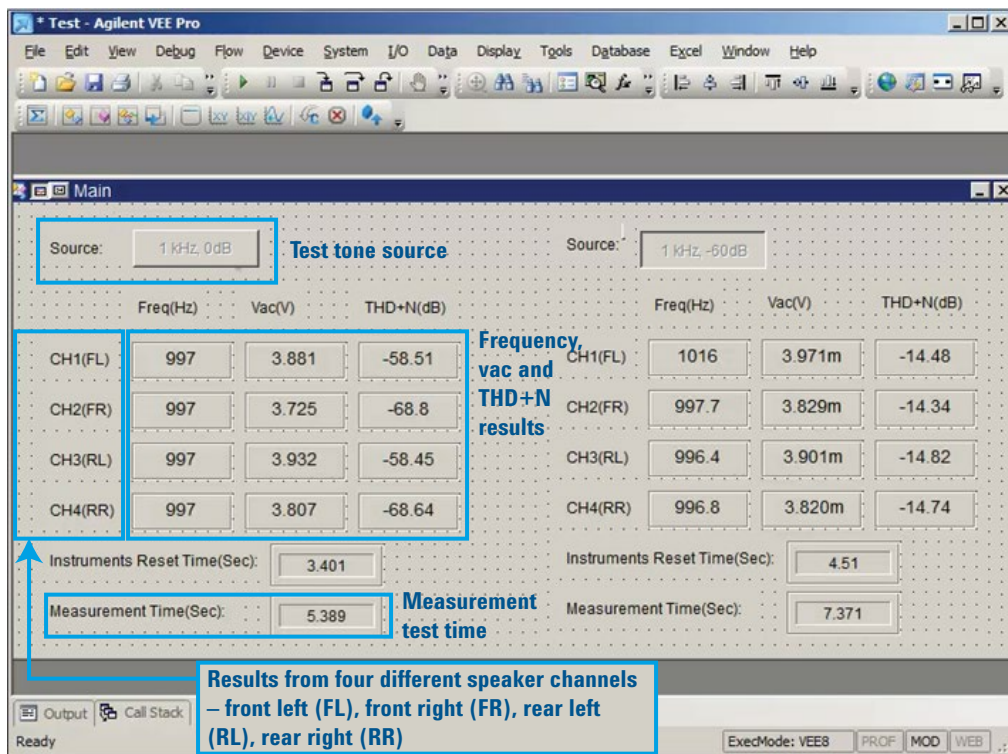

Figure 3. Example of an automated VEE program for four channels testing
4. Run the automated Agilent VEE program as shown in Figure 3. Two different sets of results from this test program can be easily captured and displayed:
As illustrated in Figure 3, the VEE program makes it easy to automate testing and simultaneously measure multiple channels and parameters.